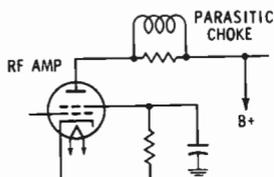

Fig. 4. A parasitic choke in the plate lead of an RF power amplifier.
Parasitic oscillations within an RF power amplifier (PA) stage can also produce undesired harmonics unless proper precautions are taken. One of the most common methods of preventing parasitics is by inserting a parasitic choke in the plate and/or grid lead of the amplifier as shown in Fig. 4. This choke may consist of a resistor-coil combination as shown, or it may consist of a coil only.